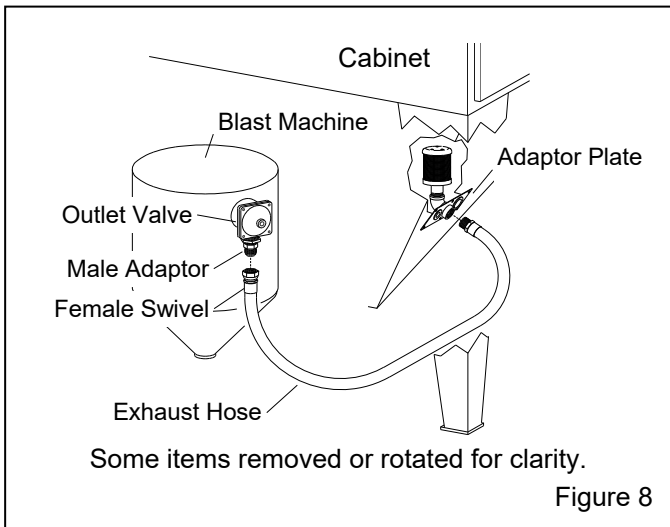

Figure 8
**2.6 Attach Blast-Machine Exhaust Hose – Figure 8**